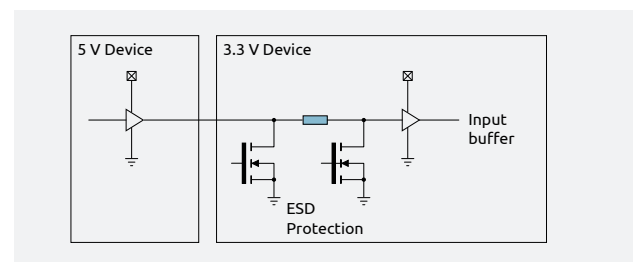

Fig. 29 ESD protected inputs simplified schematics
- › ESD protected to enable high to low voltage translations (Fig. 29)